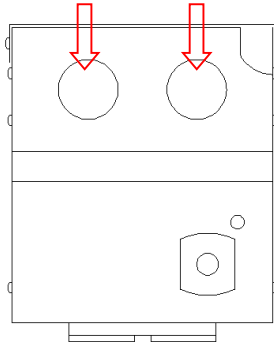
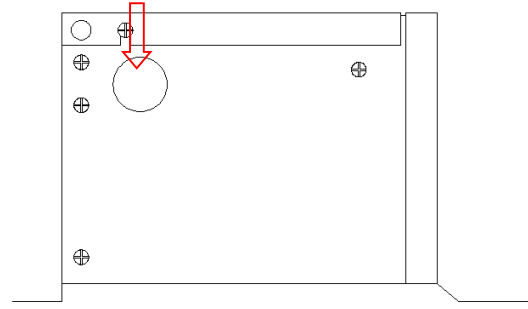

Fig2
Fig3
2. According to user requirement, select one open of transformer, using a toll remove the loosen round plate.(Fig2, Fig3)